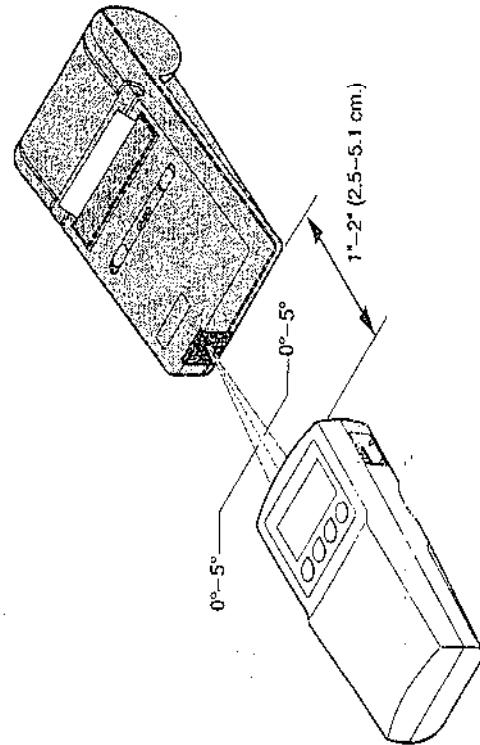

Figure 6: Aligning the NPB-40 and Printer
- Place the printer and monitor on a flat, stable surface, oriented as shown in Figure 6.